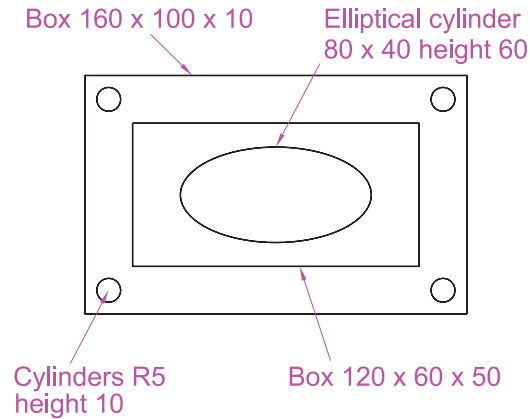
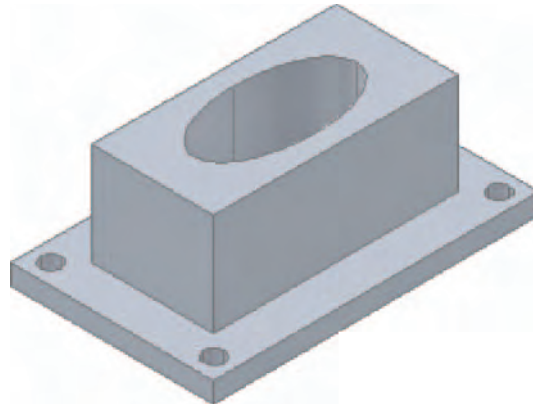

Fig. 12.32 Example – **Chamfer** and **Fillet** – sizes for the model
Fig. 12.33 Example – isometric view – **Chamfer** and **Fillet** – the model before using the tools
1. Working to the sizes given in Fig. 12.32 and using the **Box** and **Cylinder** tools, construct the 3D model shown in Fig. 12.33.
Figure 12.33 shows the 3D model so far constructed.